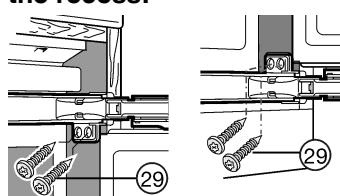

Fig. 18
- Screw chipboard screws Fig. 18 (29) on both doors at the top and at the bottom through the hinge plates.